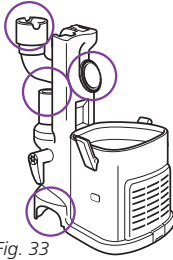

Fig. 33
- Remove the dust cup and extension wand and separate the detachable canister from the motorized floor brush. Look in all 4 openings for any blockages. (Fig. 33)